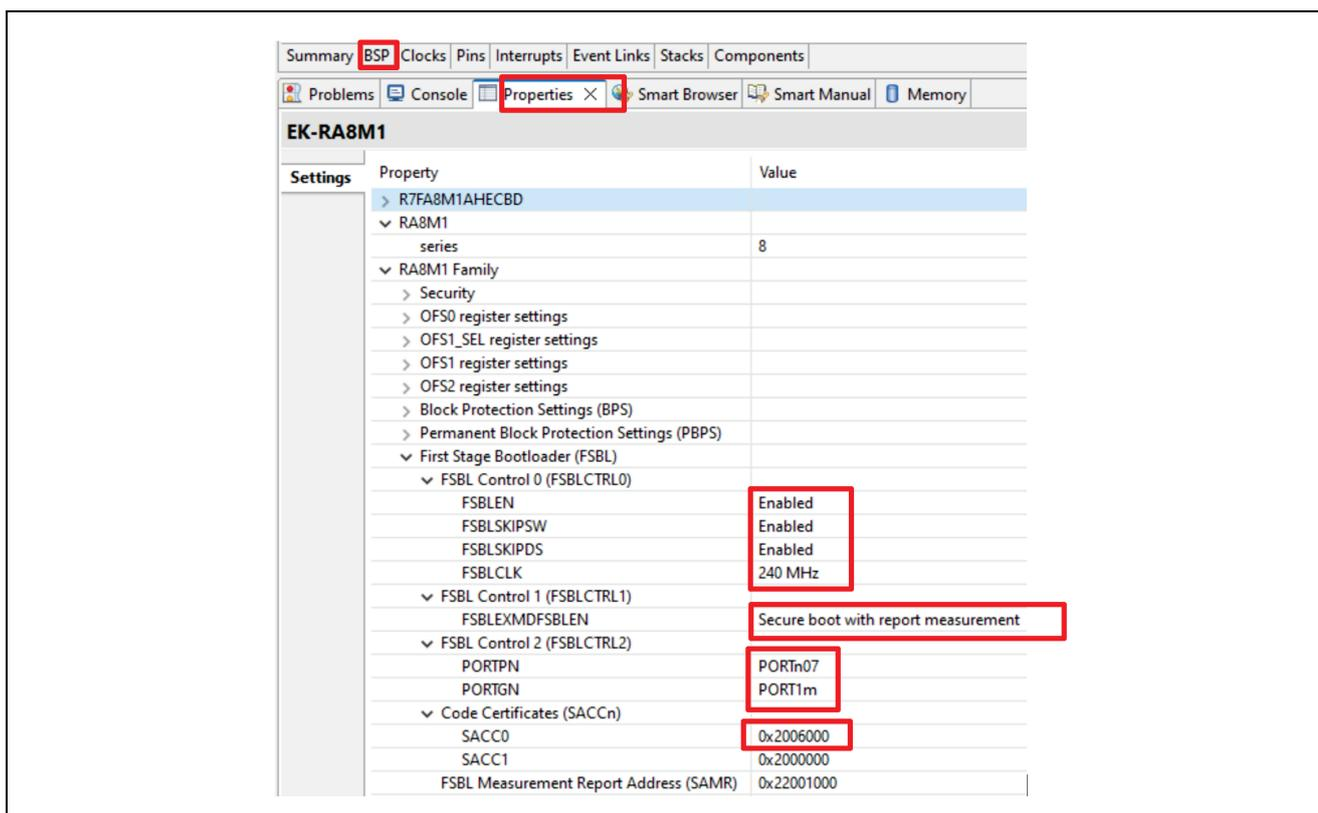

Figure 4. FSBL Configurations
Upon a failed boot, the high level is output to the port set by the FSBLCTRL2 register (refer to Figure 4) and the MCU goes to CPU Sleep mode. For example, in Figure 4, Pin 107 is selected as the pin to output a high level when the secure boot fails. This pin controls the red LED on board, which will be turned on with a failed boot sequence.
- The code certificate location in flash must be specified in the SACC0 register or SACC1 register. SACC0 register specifies the start address of the code certificate when the lower bank is Bank 0 in dual bank mode or when the startup area is the default block (block 0) in linear mode. The SACC1 register specifies the start address of the code certificate when the lower bank is Bank 1 in dual bank mode or when the startup area is the alternate block (block 1) in linear mode. Configuration of SACCx registers is handled by the RA Smart Configurator and the FSP Board Support Package (BSP). Figure 4 provides an example configuration for the Code Certificate programming location. Be sure to adapt it as required for your specific application.